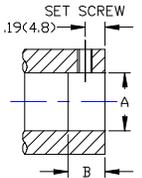

Fig 2 Mounting Dimensions
2. The connector can be held or mounted by the body or plastic bushing, but was not designed to carry mechanical loads. One end should be allowed to float attached only by the connecting wires. In horizontal applications mount the connector with the **body rotating** to reduce mechanical loads on the bearing and internal components. **Never rigid mount both ends of the connector. This will cause connector failure.** Limit mounting eccentricity to .005" (.13mm). <Fig 2>